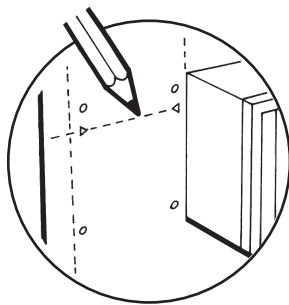

Fig. 39
4. Using the previously marked flue hole centre (Section 5.3) and the two marks made at the triangular cutouts of the template, mark the horizontal centre line for the flue assembly (Fig. 39).
5. Extend this line either left or right as required, to the corner of the room (Fig. 39).